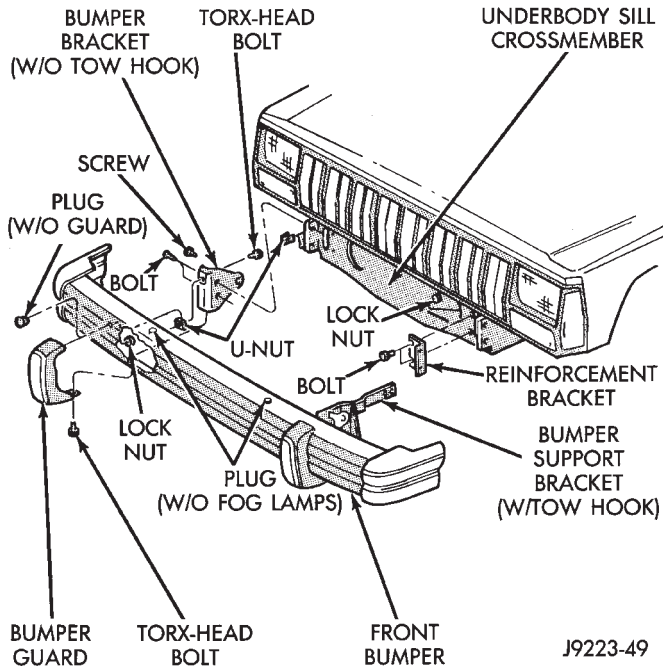
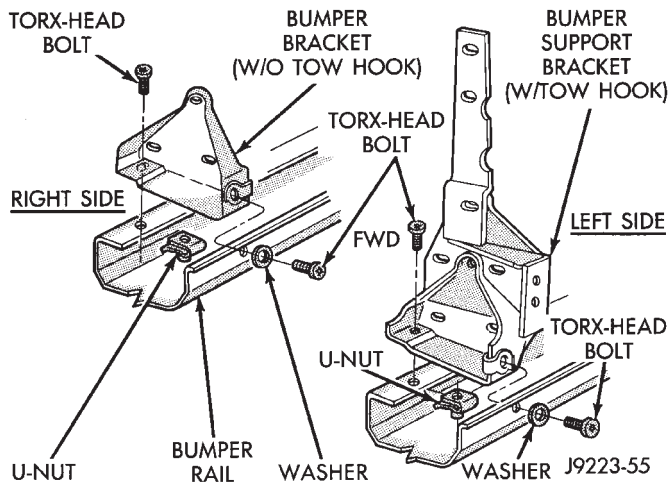
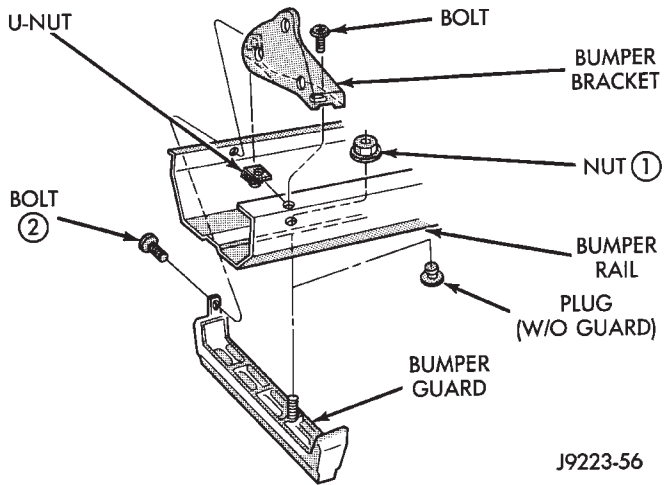
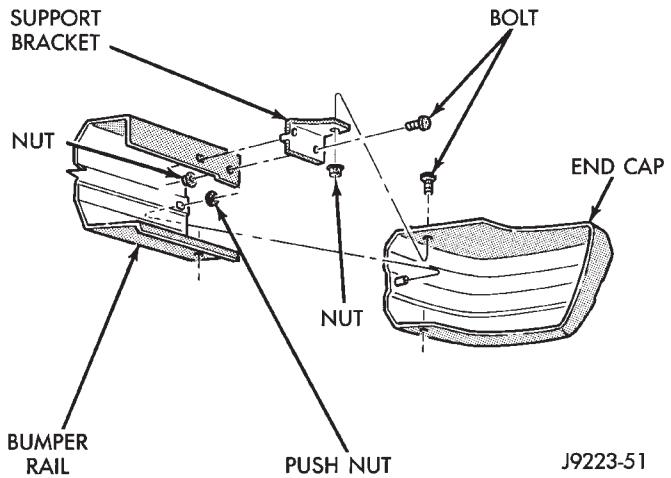

Fig. 5 Front Bumper Removal/Installation
Fig. 6 Bumper Support Bracket Removal/Installation
Fig. 7 Bumper Guard Removal/Installation
Fig. 8 Bumper End Cap Removal/Installation
- (5) Detach the tow hook straps from the sillmember.
- (6) Support the bumper.
- (7) Remove the bolts that attach the bumper support brackets to the right and left sillmembers (Fig. 5).
- (8) Remove the support and the bumper from the vehicle (Fig. 5).
- (9) Remove the nuts and bolts that attach the tow hooks to the bumper support brackets.
- (10) Remove the support brackets (Fig. 6), bumper guards (Fig. 7) and caps (Fig. 8) from the bumper rail.
(2) If equipped, install the bumper support brackets and bumper guards on the bumper rail. Tighten hardware in the sequence indicated in (Fig. 6). Tighten the locknuts with 20 N·m (15 ft. lbs.) torque. Tighten bolts to 56 N·m (41 ft. lbs.) torque.
(3) If not equipped with bumper guards, install the bumper support brackets on the bumper rail. Tighten bolts to 56 N·m (41 ft. lbs.) torque.
(4) Install tow hooks. Tighten nuts with 100 N·m (74 ft. lbs.) torque.
(5) Install the bumper end caps on the bumper rail. Tighten nuts with 8 N·m (72 in. lbs.) torque.
(6) Install the license plate bracket on the bumper rail. Tighten the nuts securely.
(7) Install the fog lamps on the bumper rail. Tighten the nuts to 20 N·m (15 ft. lbs.) torque.
(8) If removed, install the vacuum reservoir(s) on the bumper rail. Tighten the retaining screws and bolts to 8 N·m (72 in. lbs.) torque.
(9) Position and support the bumper at the front of the vehicle.
(10) Attach the bumper support brackets to the right and left sillmembers and reinforcement brackets. Tighten screws and bolts to 56 N·m (41 ft. lbs.) torque.
(11) Install the Torx-head bolts and locknuts that attach the tow hook straps to the underbody sillmember. Tighten locknuts with 30 N·m (22 ft. lbs.) torque.